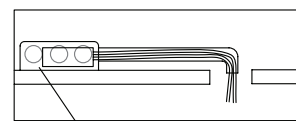

Fig. 1
1. Shut off power to the outlet box (A).
2. Adjust height of the cable splitter (B) by loosening set screw (C) using provided Allen key (D) and sliding up or down as desired.
3. Feed the power cord (E) and the steel cable (F) through the cord/cable bushing (G) and adjust steel cable to desired height. To shorten the cable, push the cable up; to lengthen, push in the plunger while pulling down on the cable, release the plunger to lock.
4. Adjust the cord lock (H) to remove slack in the cord. Reserve extra cord in the canopy. Hang the fixture (J) from the steel cable only as shown in the Detailed View.
5. The LED driver (K) must be installed in a remote and accessible location near the fixture in accordance with local electrical code. (Fig. 1)
- d. Connect the LED driver's negative (-) output wire to the necessary length of black wire (not included) to reach the fixture (J) location.